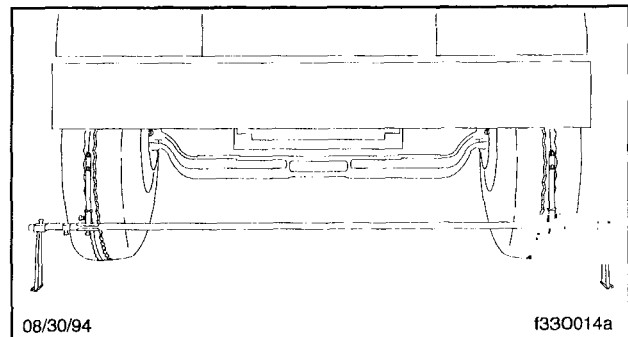

Fig. 3, Trammel Bar Positioning
7. Place the trammel bar at the front of the tires as shown in **Fig. 3**. Adjust the scale end so that the pointers line up with the scribe lines. See **Fig. 4**.